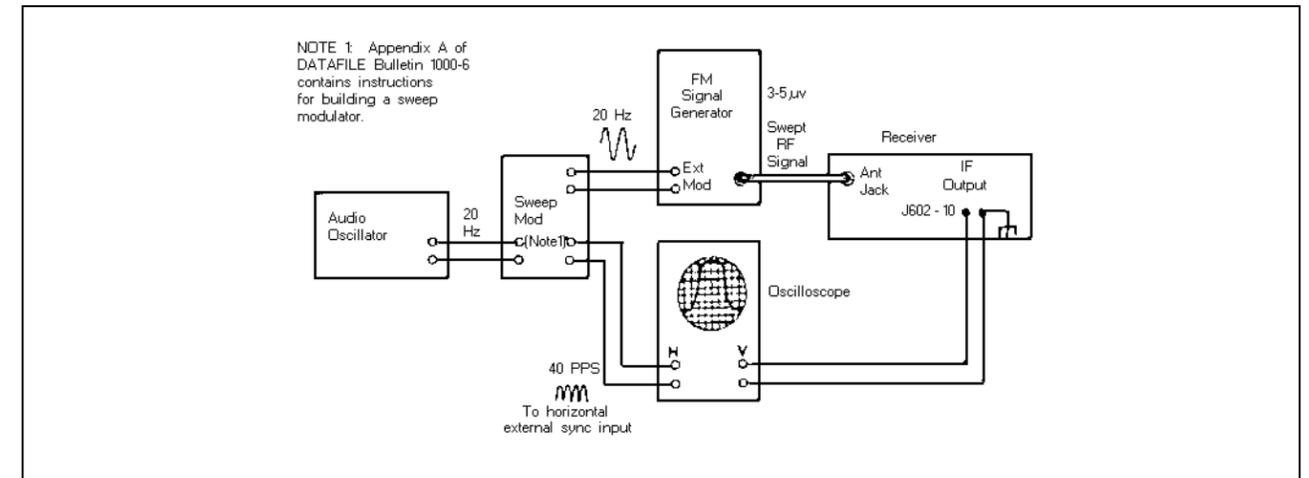

Figure 6 - Test Set-Up For 20 Hz Double-Trace Sweep Alignment
1. Attach an oscilloscope probe to IF AMP. MTR. (J602-10). (Refer to Figure 6).